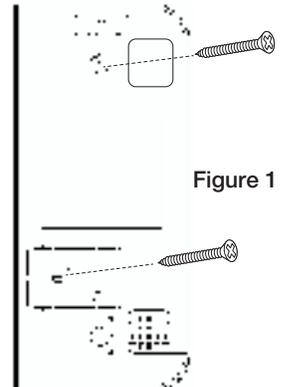

Figure 1
2. Make sure the alignment arrow on the magnet points to the alignment mark on the sensor (see **Figure 1**).